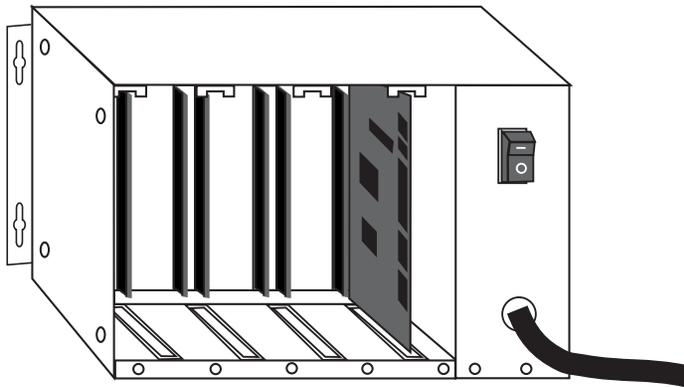

Figure 2-3 — Populated Micro PC Card Cage
4. Slide the 5066 into the card cage. The ROM-BIOS label on the card should face to the left. See Figure 2-3 for an illustration of the 5066 in a Micro PC card cage.